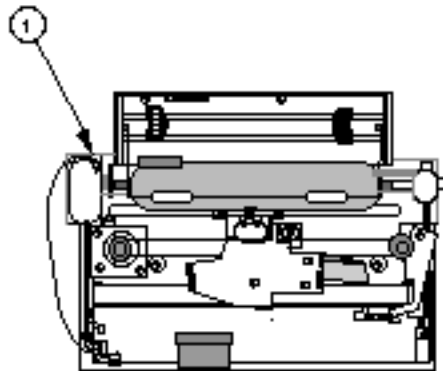

FIGURE 12
12. Remove the old mechanical paper-sensor ground screw (Figure 12, #1) from the left platen bushing plate and discard the screw .